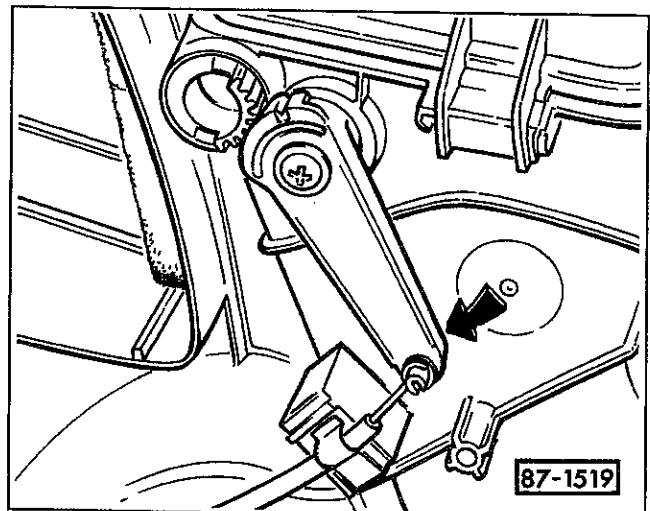

Fig. 9. Push central flap lever against stop, then install cable retaining clip.
4. Push lever to stop. See Fig. 9.